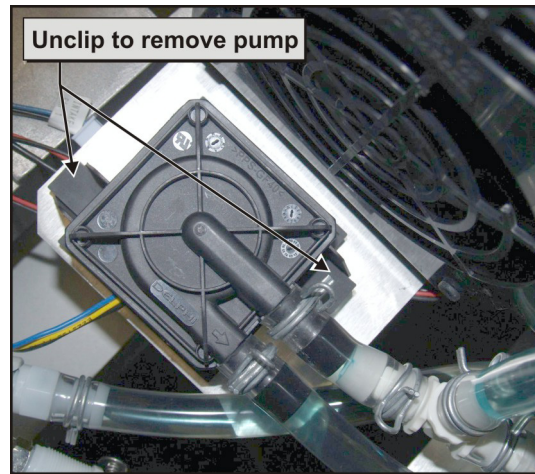

Figure 16 Remove Reservoir Pump
- a. Unclip the 2 clips securing the pump to its rubber housing (**Figure 16**).